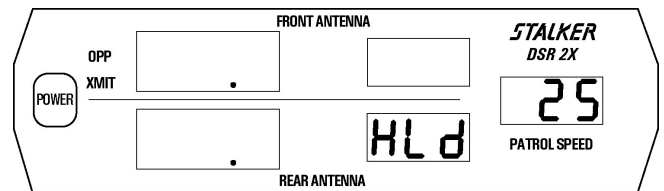
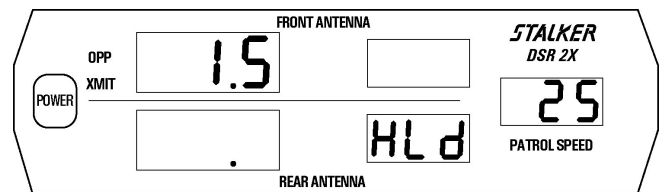

Fig. 55
Fig. 56
Quickly hold the tuning fork approximately two (2) inches in front of the active antenna, with the narrow edge of the fork facing the antenna. The patrol window should indicate 25 ± 1 mph (40 kph) (Fig. 55). Then move the higher speed fork in front of the antenna with the narrow edge facing the antenna. The target window should register $15 \text{ mph} \pm 2 \text{ mph}$ (24kph) (Fig. 56), which is the difference in speed of the two forks.